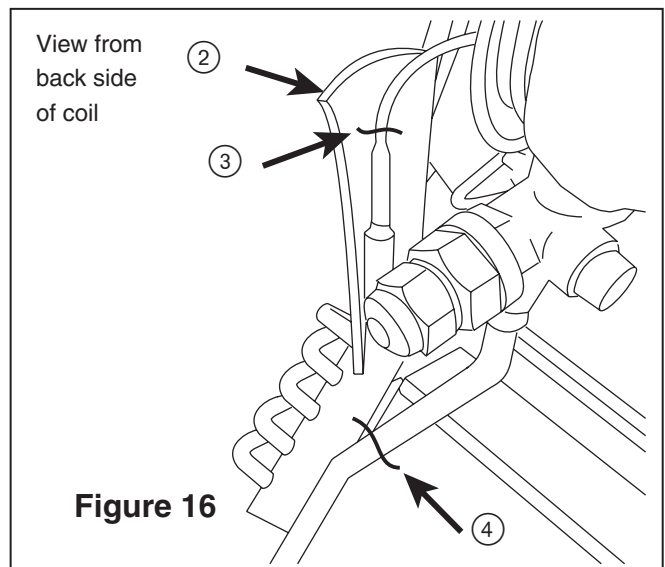

Figure 16
2. Remove the piece of insulation as shown in Fig. 16 and discard.
3. Use side cutters to cut the TXV cap tube as it enters the vapor line equalizer line stub out. See Figure 16.